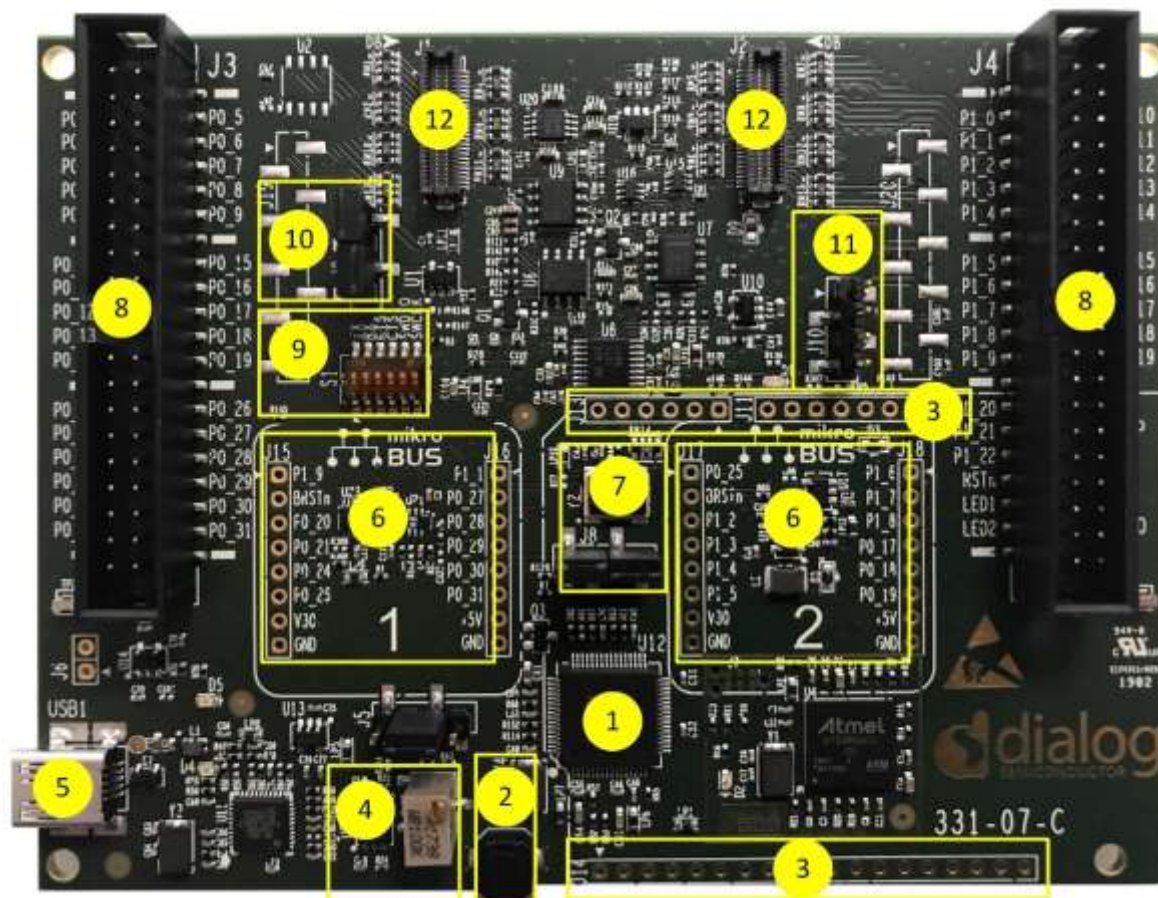
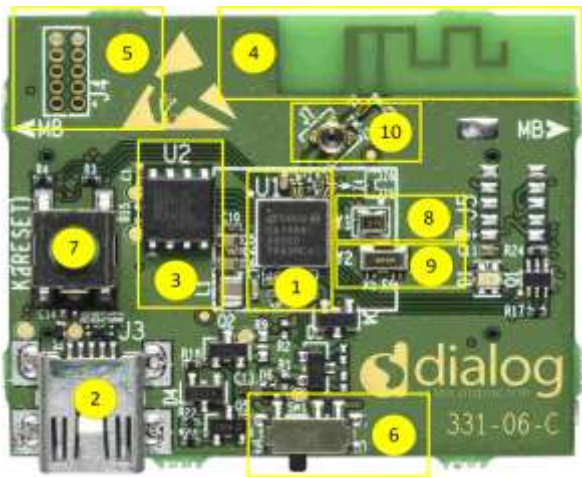

Figure 2: The DA14695 ProDK DK
Figure 4: The DA14695 daughter board Layout
- DA14695-00HQDEVKT-P main Board: **Figure 2**
- The DA14695-00HQDB-P daughter board **Figure 4**
Figure 2 illustrates the physical layout of the ProDK. The daughter board containing DA14695 device is shown in **Figure 4**.
J3 and J4 (Reference 8 in **Figure 2**) are the Breakout Headers (2 pcs 2x20pin) for monitoring GPIO and power signals, with markings of signal names on the PCB top silkscreen.
Figure 4 presents the DA14695 daughter board Layout.
The ProDK Development Kit is connected to the host PC over the connector marked as USB1, as shown in reference 6 in **Figure 2** and **Figure 6** using a standard mini-USB cable. For further reading